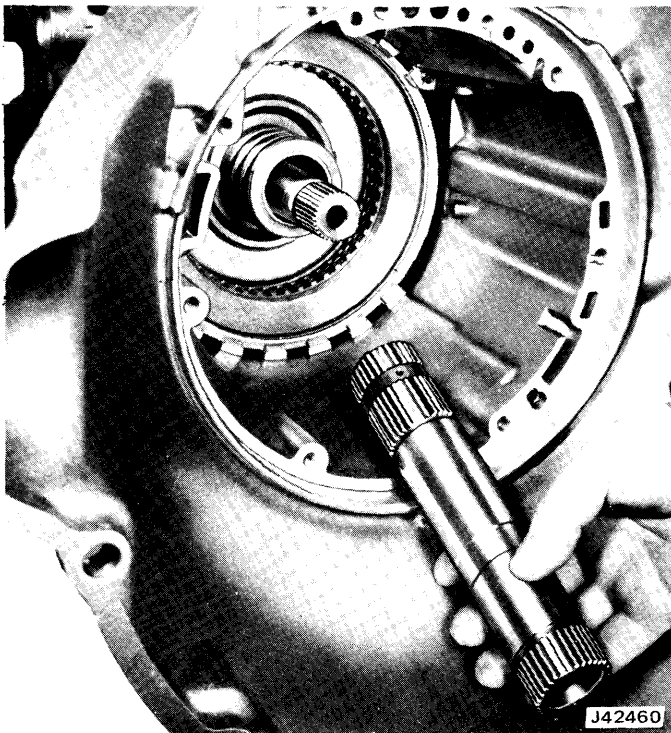

Fig. 7-31 Removing Sun Gear Shaft
- (2) Remove sun gear shaft (fig. 7-31).